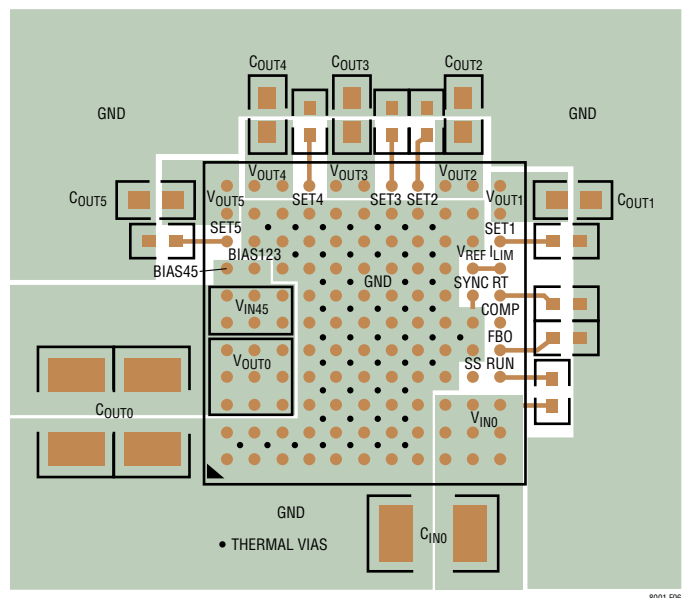

Figure 6. Layout Showing Suggested External Components, GND Plane and Thermal Vias
Most of the headaches associated with PCB layout have been alleviated or even eliminated by the high level of integration of the LTM8001. The LTM8001 is nevertheless a switching power supply, and care must be taken to minimize EMI and ensure proper operation. Even with the high level of integration, you may fail to achieve specified operation with a haphazard or poor layout. See Figure 6 for a suggested layout. Ensure that the grounding and heat sinking are acceptable. A few rules to keep in mind are:
6. Use vias to connect the GND copper area to the board's internal ground planes. Liberally distribute these GND vias to provide both a good ground connection and thermal path to the internal planes of the printed circuit board. Pay attention to the location and density of the thermal vias in Figure 6. The LTM8001 can benefit from the heat sinking afforded by vias that connect to internal GND planes at these locations, due to their proximity to internal power handling components. The optimum number of thermal vias depends upon the printed circuit board design. For example, a board might use very small via holes. It should employ more thermal vias than a board that uses larger holes.